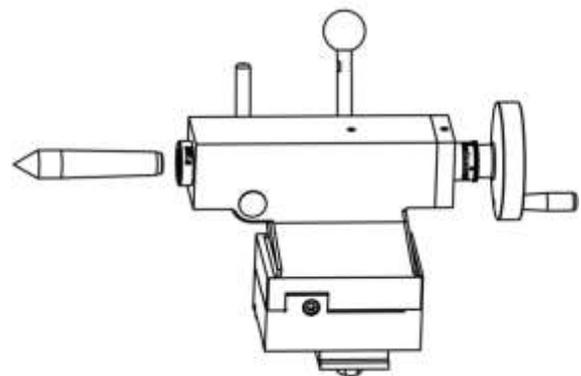

Figure 11 .Inserting dead center into tailstock quill.
4. Slide the dead center into the tailstock quill as Shown in **Figure 11** .